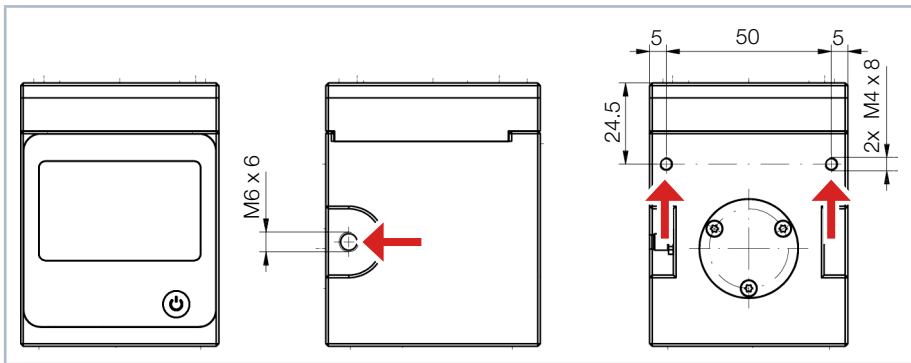

Fig. 7.3: Mounting threads in the Cube M housing
2. Install the device with the mounting threads as shown in Fig. 7.3 on page 14.
3. Unscrew the mounting screws from the mounting threads (see Fig. 7.3 on page 14).